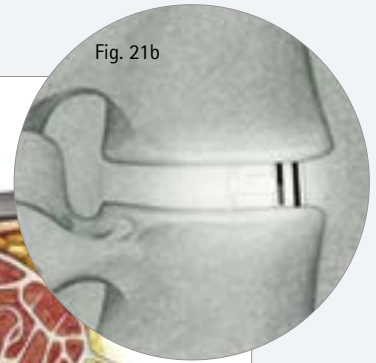

Fig. 21b
- On the lateral fluoroscopic image the two lateral markers should appear as one line (see Fig. 21b).